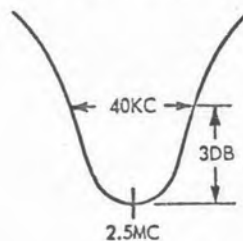

Figure 5-7
- b. Using the calibrated 2.5-mc marker as a reference, adjust L502, L503, and L504 to achieve a symmetrical response curve as shown in figure 5-7.
- g. Adjust L501 for maximum amplitude response curve similar to that shown in figure 5-7 except centered about the calibrated 21.4-mc marker instead of 2.5 mc.
- f. Adjust L501 through L504 for a maximum response curve similar to that shown in figure 5-7 except centered about the calibrated 21.4-mc marker instead of 2.5 mc.